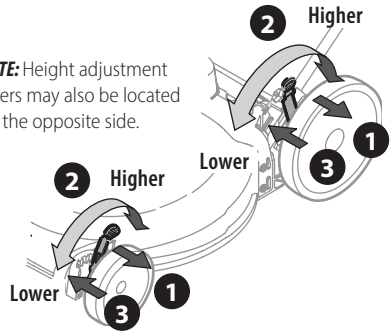

Figure 9
1. Carefully pull the height adjustment lever outward towards wheel (mower will tend to fall when lever is moved outward). Figure 9